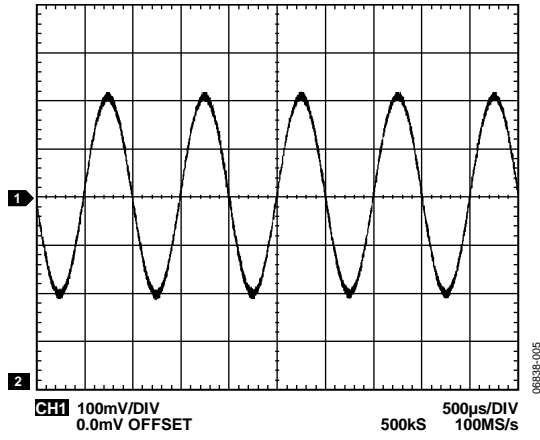

Figure 5. Output of the AD8251-EVALZ when $G = 8$
6. Finally, change the signal generator amplitude to a 10 mV differential signal and set Switch 3 on the SW3 DIP switch to the on position to set $G = 8$. The result must resemble Figure 5.